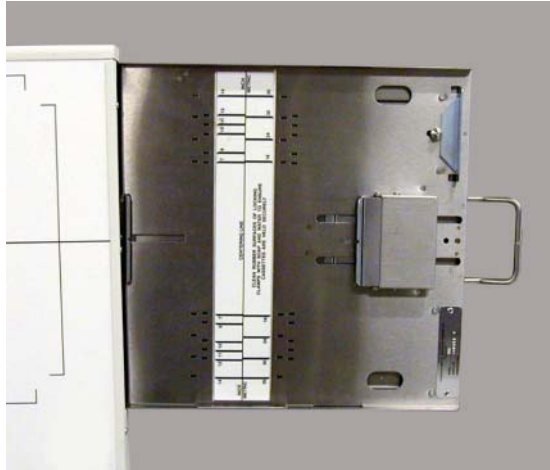

Figure 3-4. Poersch Cassette Film Tray
2. Pull cassette tray from Receptor Cabinet using tray handle (see Figure 3-4).